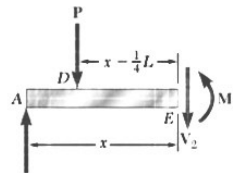

Fig. 9.18
2. **From  $D$  to  $B$  ( $x > L/4$ ).** We now draw the free-body diagram of a portion of beam  $AE$  of length  $x > L/4$  (Fig. 9.18) and write